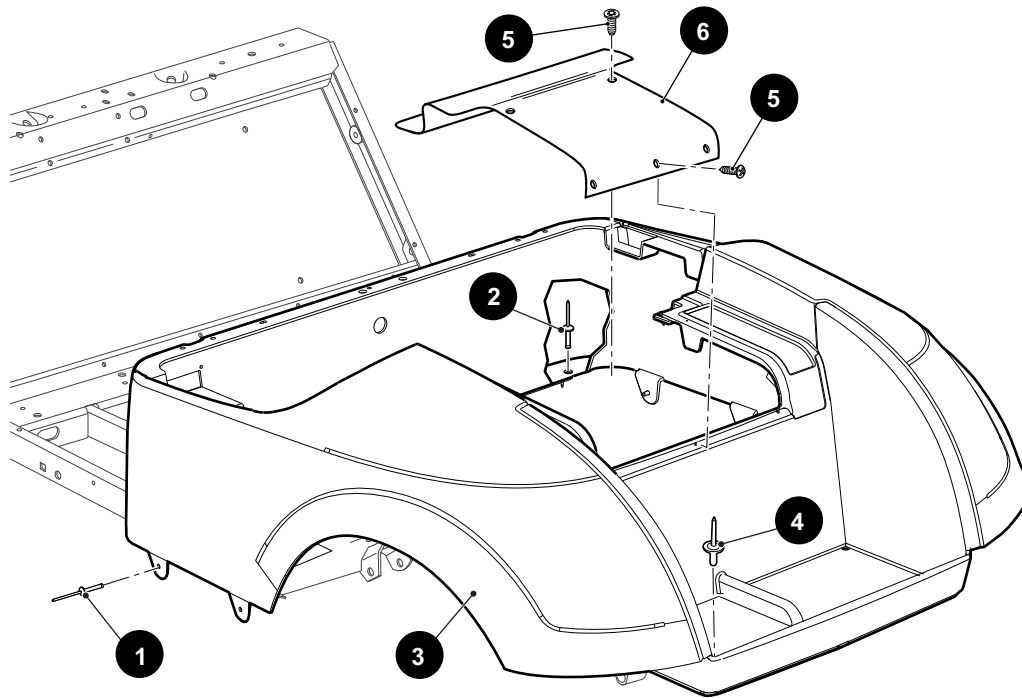

Figure 11 Body Components (Rear)
3. At the front of the rear body, remove the rivets (2) securing the rear body to the frame and floorboard area. Drill out the heads of the large head rivets (1) that secure the bottom of the body panel to the side of the vehicle (Figure 11).
5. Remove the rivets (4) that secure the floor of the bagwell area to the frame underneath.
6. Remove the body (3).
7. If the access panel (6) is to be reused, remove the hardware (5) securing the access panel to the body panel.
8. Remove the access panel (6).
9. Install the rear body (3) in the reverse order of removal using new rivets. Tighten the screws (5) to the torque value specified below.